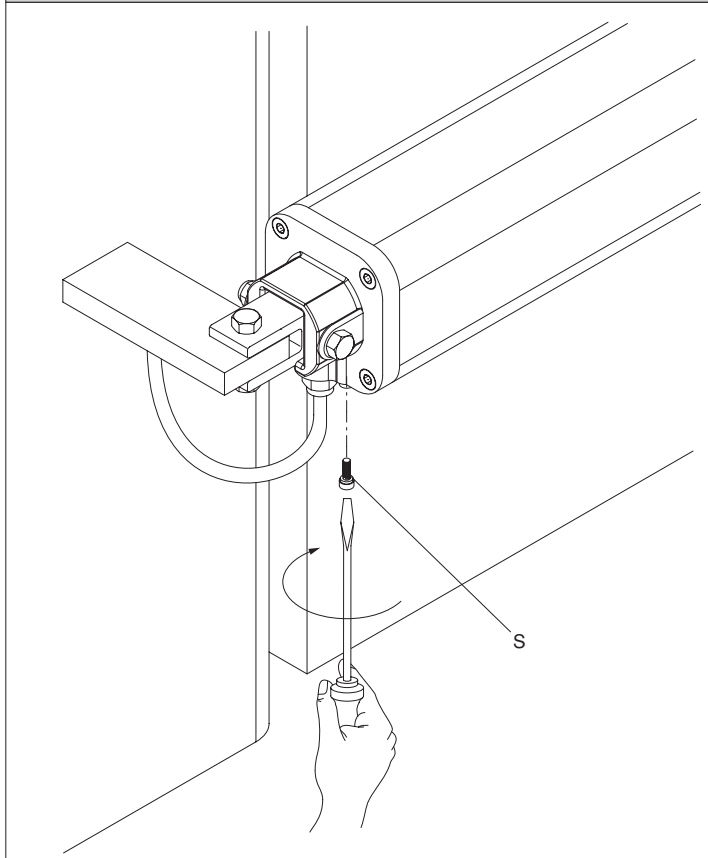

Fig. 18
- 5) Pull the rod out completely after activating the emergency release (fig.18).
- 6) Push the rod back in manually by a maximum of 10 mm and tighten the emergency release (fig.18).